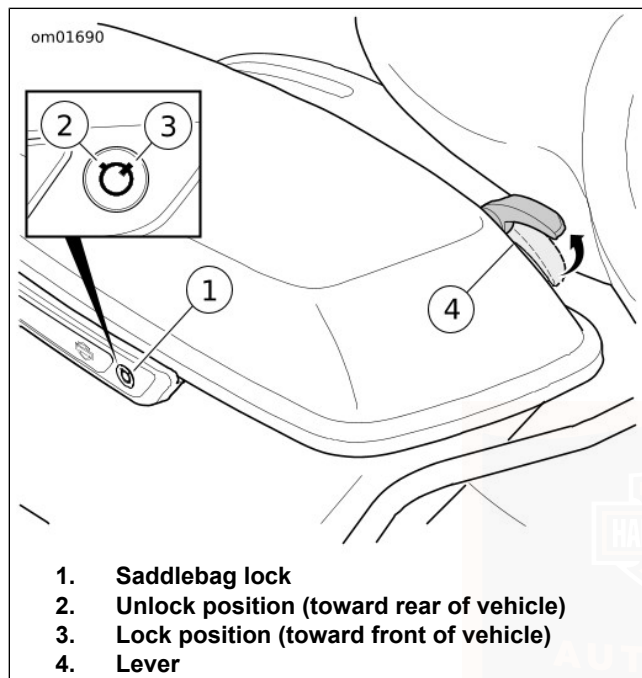

Figure 57. Saddlebag
1. See Figure 57. Unlock saddlebag lock with the key.
1. See Figure 57. Close the saddlebag lid.
1. See Figure 57. Open the saddlebag.